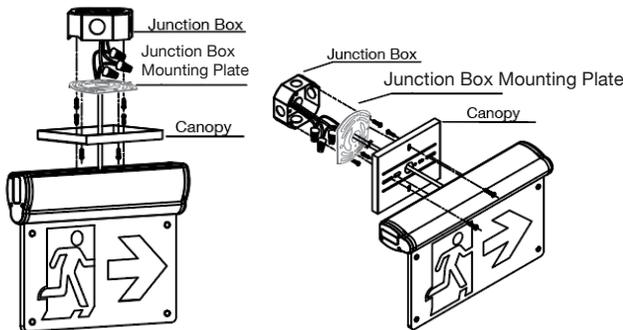

Fig. 3
5. Ceiling or wall mount (Fig. 3): Attach the canopy to the top of the fixture wiring compartment using screws.